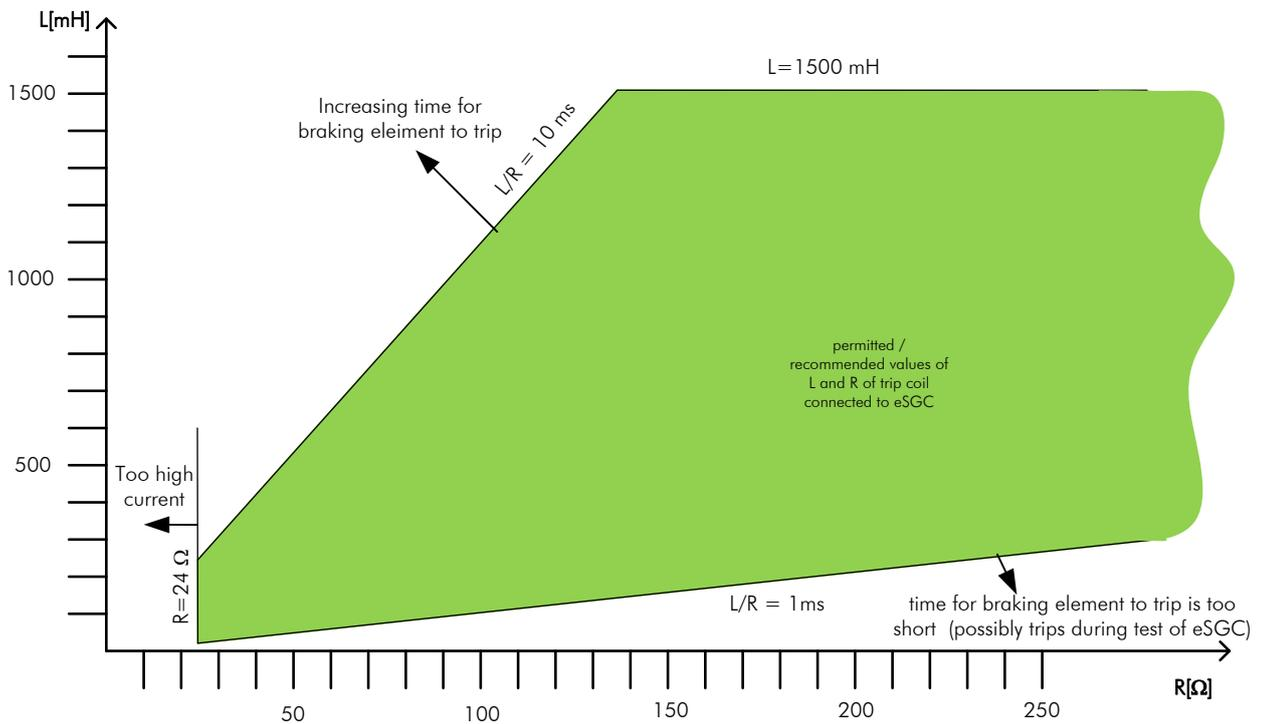

Figure 5: Values for L and R of trip coil
23. The trip coil of the eSGC-braking element connected to the eSGC-actuator must fulfill the following conditions (refer also to Figure 5), Remark: if resistance or inductivity of the wire from eSCG-connector to the trip coil have a relevant magnitude, this must also be taken into account